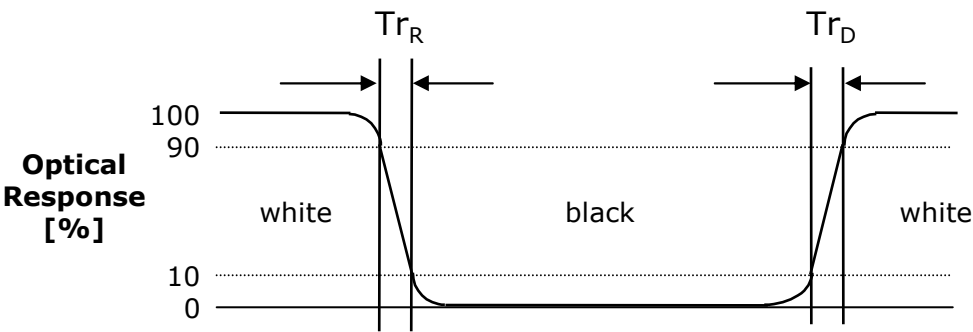

FIG. 3 Response Time
4. Response time is the time required for the display to transition from black to white (Decay time,  $Tr_D$ ) and from white to black (Rise Time,  $Tr_R$ ). For additional information see the FIG. 3.